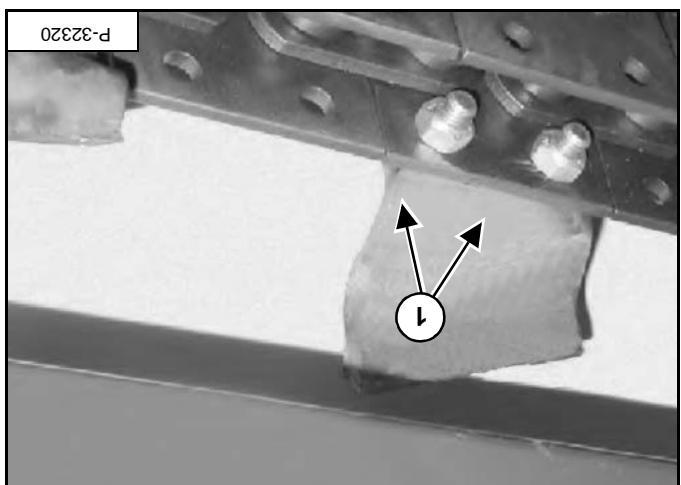

Figure PM-25
Remove the two nuts (item 1) [Figure PM-25].